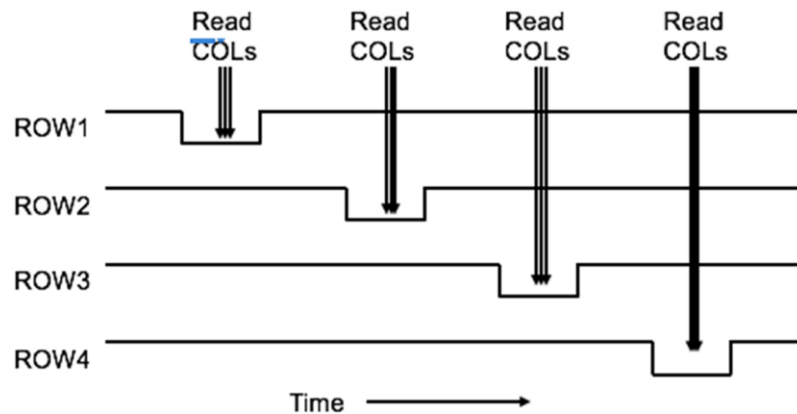

Figure 13 - Digital Output Timing Diagram for Keypad Rows
8. Within main.c, write a polling procedure to output a logic 0 on the GPIO pins connected to ROW1, ROW2, ROW3, and ROW4 one at a time while keeping the other pins at logic 1. An output row will be held at logic 0 for 5 ms before the input column values are read and the output row will remain at logic 0 for 5 ms after the columns are read. Refer to the timing diagram of Fig. 13.